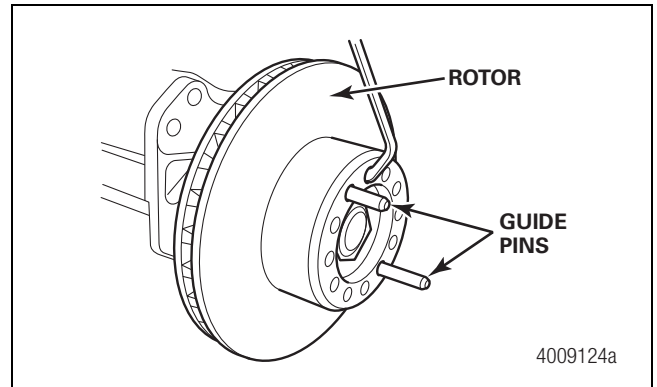

Figure 6.26
8. Install the rotor onto the unitized hub bearing. Figure 6.26.